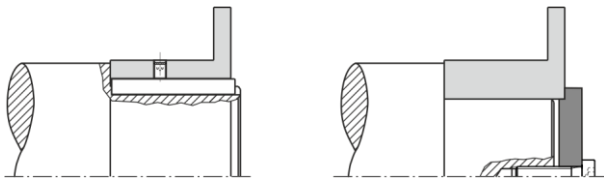

Fig. 6
- ❑ Mount the hubs (1.1.4/1.5) onto the shafts using a suitable device and secure them axially (Fig. 6).